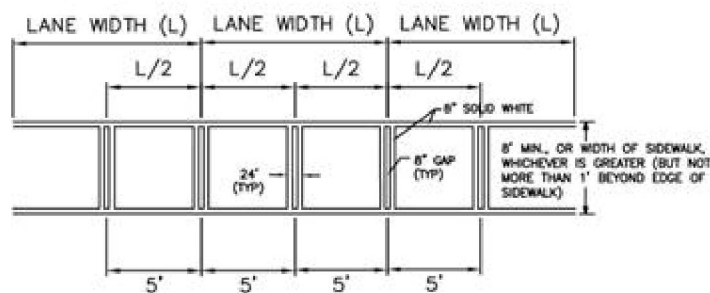

Figure 4-11 Typical Crosswalk Details
Figure 4-11 contains typical locations for curb cut ramps. Ramps are required at all pedestrian crosswalks where curb is constructed or replaced. Ramps must be constructed on each side of a crosswalk to provide a continuous ADA accessible pathway. When ramps are constructed at an intersection, all corners of the intersections must have ramps installed.
The required crosswalk detail is also shown in Figure 4-11. See current Department Construction Details for the appropriate treatment. Refer to Pedestrian & Streetscape Guide.
- Crosswalks should use the current Georgia DOT standard (see Figure 4-11).